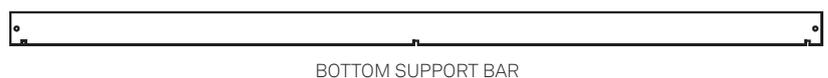

Figure 1. Parts of the Light Fixture Assembly
- 3 The light fixture assembly will consist of a finish canopy with individual cord hung sockets attached and pre-wired, a mounting plate, vertical supports, a bottom support bar, and individual glass lasso elements (Figure 1).